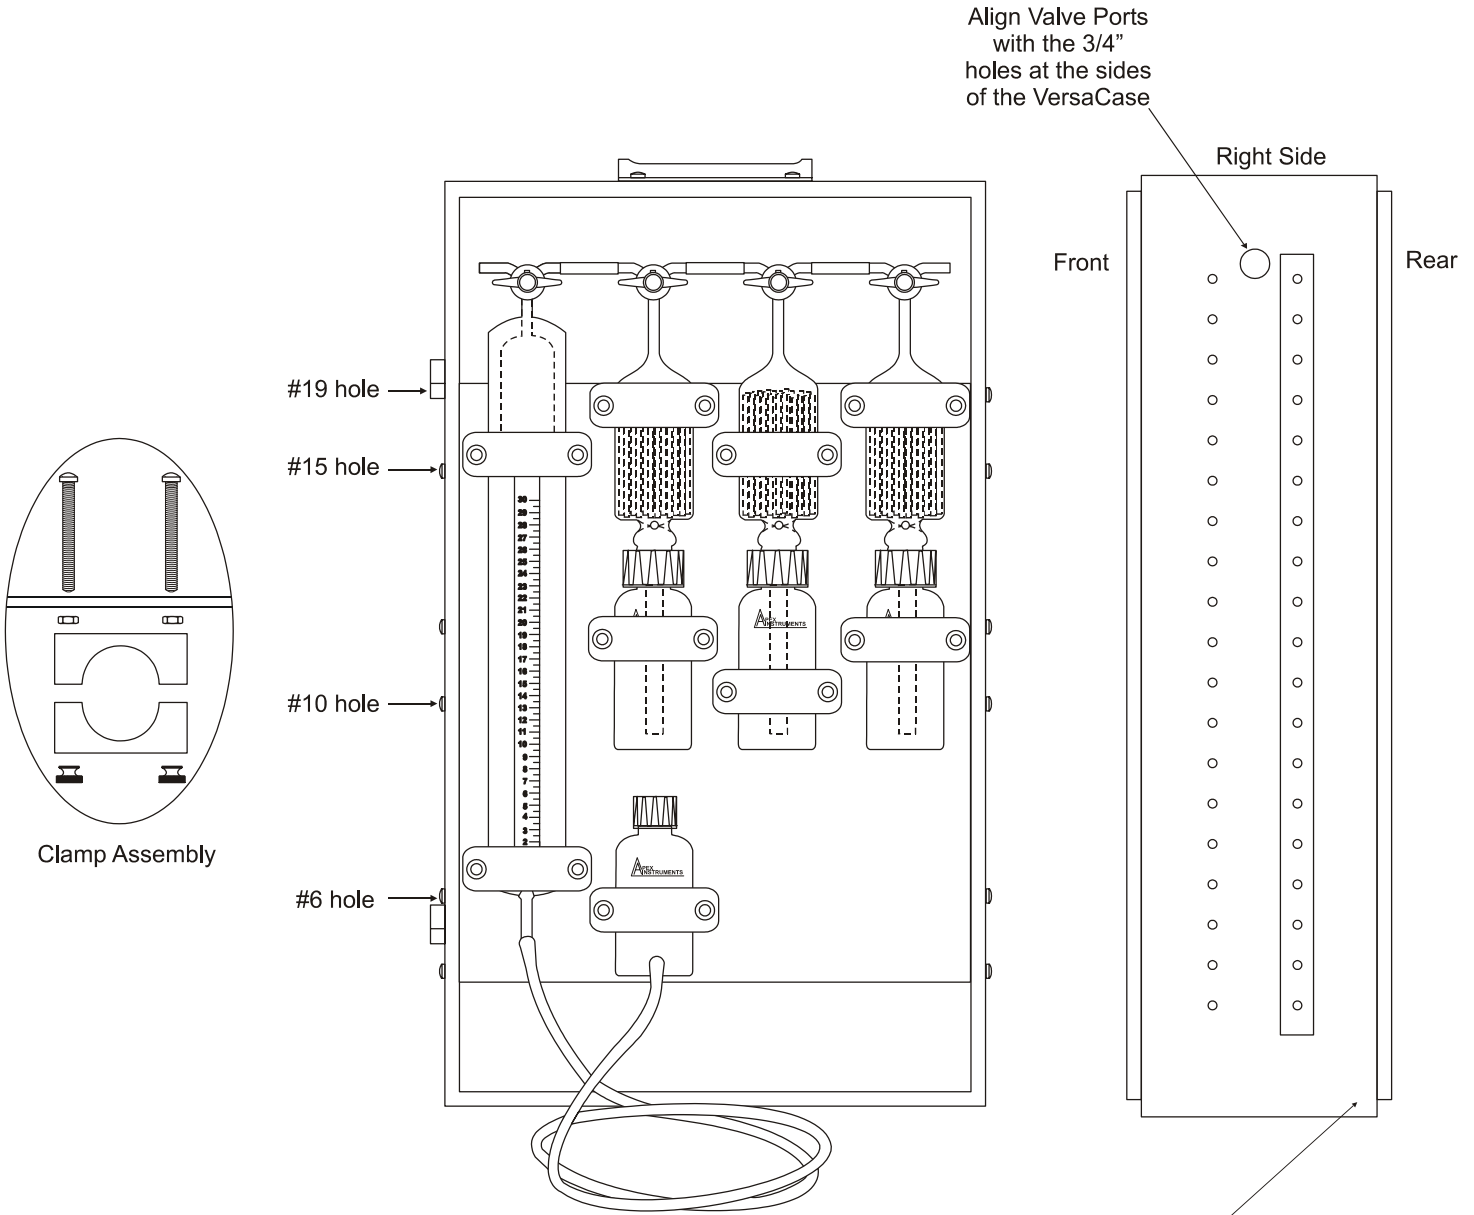

Figure 3 VSC-33 Glassware Set-up
Follow the procedures listed below to assemble the Orsat. *It is strongly recommended that the reader review these instructions thoroughly prior to assembling the apparatus.* A schematic diagram of a completely assembled VSC-33 analyzer is presented in Figure 3. Specific pipette filling instructions, given below, are designed to facilitate the absorption of carbon dioxide, oxygen, and carbon monoxide in sequence.. The chemicals for gas absorption may be prepared by the analyst using the instructions in the preceding section.
2. If the stainless steel panel is not installed, install it using the 8/32 by 1/4-in screws. On the VersaCase support frame, locate the line of screw holes that run from top to bottom on each side of the case. Counting up from the bottom of the VersaCase frame, secure the panel using hole positions six (6), ten(10), fifteen(15) and nineteen (19). When installing the panel, make sure that the mounting surface of the panel faces toward the rear of the case. (see Figure 3)
3. Mount the nine VC2-50 clamps to the predrilled panel, using two 3" screws and the large brass knurled thumbnuts for each clamp. Fill the burette water jacket with distilled water to the top, and cap using the #15 screw cap. (The addition of a few drops of chlorine bleach will help to hinder mold growth.) Install the burette being certain that the numbered markings face the operator. Secure the burette in the clamp using two of the large knurled brass thumb nuts. (Figure 3)
4. The carbon dioxide (CO₂) absorption pipette assembly is installed to the immediate right of the burette using another VC-50F clamp. Mount the clamp to the top slot of the crossbar. Assemble one of the contact pipettes by placing one #30 bored cap and one #30 seal ring over the contact pipette stem, and inserting the stem of the contact pipette into the pipette bottle. Tighten the cap to form a leak-free seal. Mount a second clamp to the middle crossbar on the top slot, directly beneath the second clamp on the top crossbar. When installing the CO₂ pipette, make sure that it is positioned so that the 3-way stopcock valve on the contact faces towards the operator. (Figure 3)
5. The oxygen (O₂) absorption pipette will be installed to the immediate right of the CO₂ pipette assembly. Mount two VC-50F clamps, one on the bottom slot of the top crossbar and one to the bottom slot of the middle crossbar. Place one #30 bored cap and one #30 seal ring on the contact pipe stem. Insert the stem into the pipette bottle and tighten the cap to form a leak free seal. Secure the O₂ assembly in the clamp using four of the large knurled brass thumb nuts, making sure the stopcock valve is facing the operator. (Figure 3)
6. If carbon monoxide (CO) analyses are required, use the remaining contact pipette assembly for this purpose. Place a #30 bored cap and #30 seal ring over the contact stem and insert the stem into a pipette bottle. Tighten the cap to form a leak free seal. Mount two VC-50F clamps to the extreme right of the case, both on the top slots of the top and middle crossbars. Secure the pipette assembly in the clamps using four of the large knurled brass thumb nuts, making sure the stopcock valve is facing the operator. (Figure 3)
7. Secure the aspirator bottle to the clamp at the bottom of the panel. Attach a 30" piece of rubber tubing to the hose barb of the aspirator bottle and hose barb of the burette. (Figure 3)